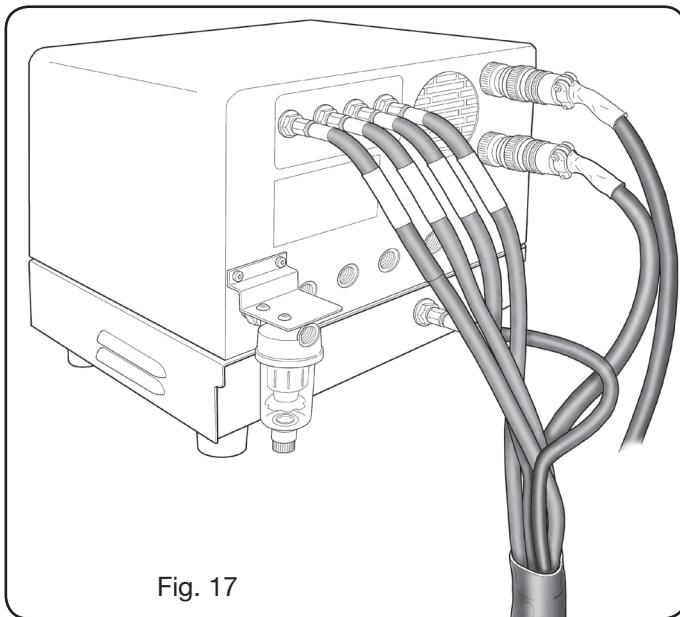

Fig. 17
- Finally connect the connection art.1189 by screwing the electric connector onto the CN04 outlet (see the left part of Fig. 17).
- Connect the pipe bundle art.1166 by tightening the pipes to the relative gas outlets, being careful to ensure the markings correspond (plasma preflow, secondary preflow/cutflow and auxiliary); screw the electric connector to the outlet CN05 (see Fig. 17).
- Finally connect the connection art.1189 by screwing the electric connector onto the CN04 outlet (see Fig. 17). Make sure the air (AIR) is always connected, at adequate pressure, to the automatic gas console, as this is used as "service" gas.